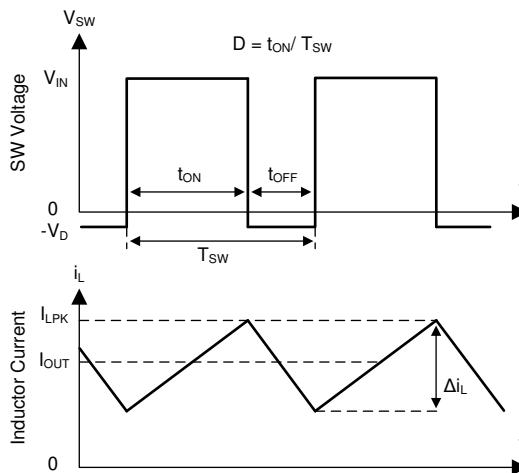

Figure 10. SW Node and Inductor Current Waveforms in Continuous Conduction Mode
The following operation description of the LM76002-Q1/LM76003-Q1 refers to the *Functional Block Diagram* and to the waveforms in Figure 10. The LM76002-Q1/LM76003-Q1 supplies a regulated output voltage by turning on the internal high side (HS) and low side (LS) NMOS switches with varying duty cycle (D). During high-side switch on-time t_{ON} , the SW pin voltage V_{SW} swings up to approximately V_{IN} , and the inductor current i_L increase with linear slope. The HS switch is off by the control logic. During the HS switch off-time, t_{OFF} , the LS switch is turned on. Inductor current discharges through the LS switch, which forces the V_{SW} to swing below ground by the voltage drop across the LS switch. The regulator loop adjusts the duty cycle to maintain a constant output voltage. The control parameter of buck converter is defined as duty cycle $D = t_{ON} / T_{SW}$. In an ideal buck converter, where losses are ignored, D is proportional to the output voltage and inversely proportional to the input voltage: $D = V_{OUT} / V_{IN}$.